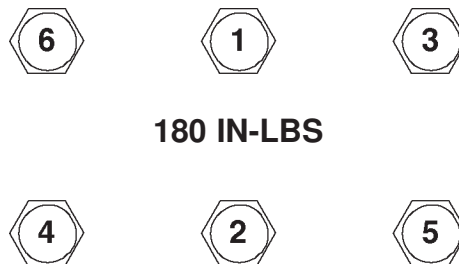

FIGURE 2. CYLINDER MOUNTING BOLT TORQUE SEQUENCE
- XV. Slide the cylinder down until it mates with the crankcase. Start all cylinder mounting bolts, until they are snug. Torque the bolts to 180 in-lbs in the sequence shown. Do not torque to the full 180 in-lbs all at once, but in 25-50 in-lb increments. See Fig. 2.